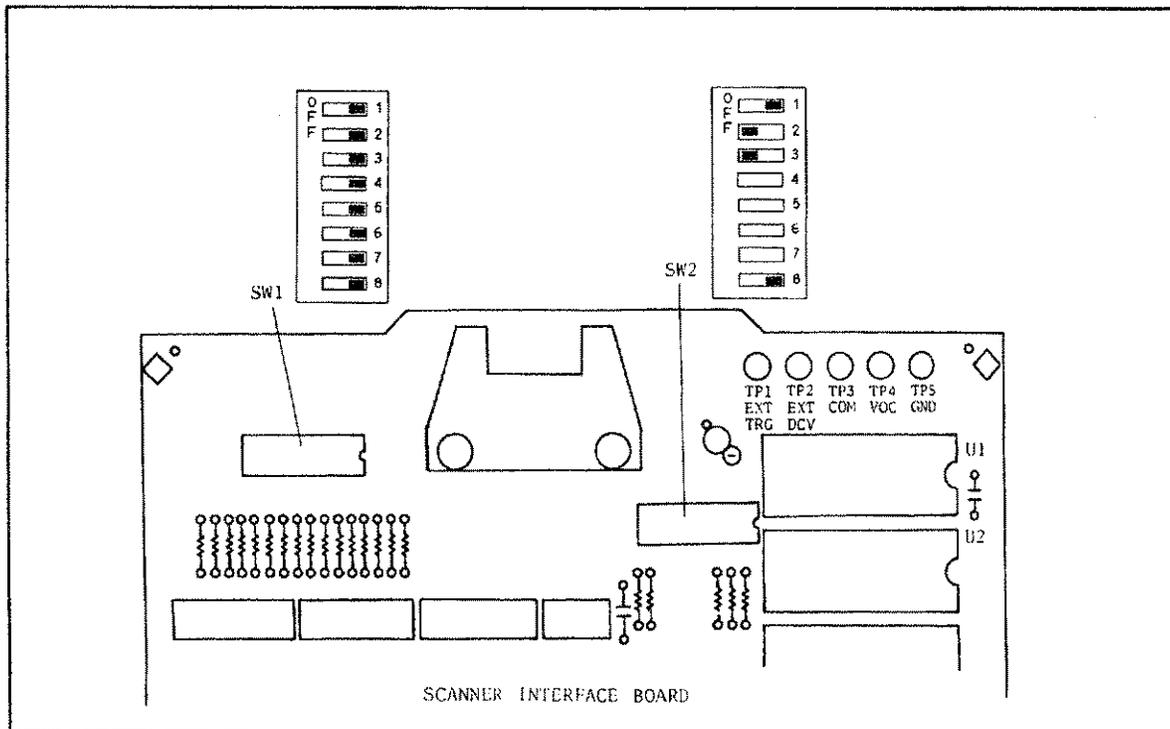

Figure 6-16. SW1 and SW2 settings
4. Set SW1 and SW2 on the scanner interface board to the same settings as when the board is shipped from the factory referring to Figure 6-16.
6. Use the appropriate power leads and clips to apply +5 V to the scanner simulator, by making connections between TP2( GND ) on the scanner simulator and TP5( GND ) on the scanner interface board. Connect between TP1( 5 V ) on the scanner simulator, and TP4( VCC ) on the scanner interface board. Figure 6-16 shows the location of TP4 and TP5 on the scanner interface board.